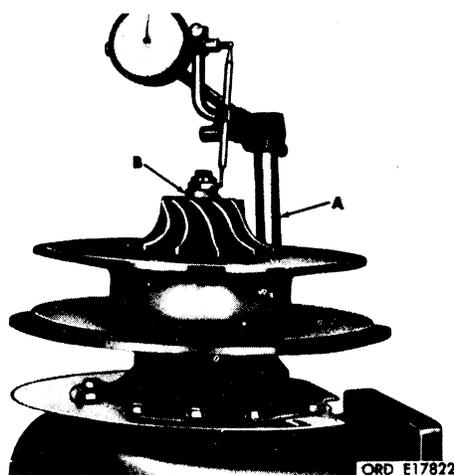

FIGURE 17. CHECKING COMPRESSOR WHEEL TOTAL RADIAL MOVEMENT.
b. Checking Total Radial Movement. Refer to figure 17.